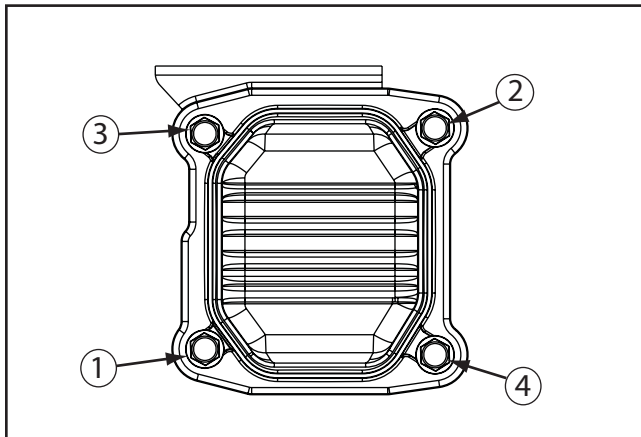

Figure 10-24. Valve Cover Torque Sequence.
11. Using the sequence shown in Figure 10-24, torque the cover screws to **8 N·m (71 in. lb.)**.